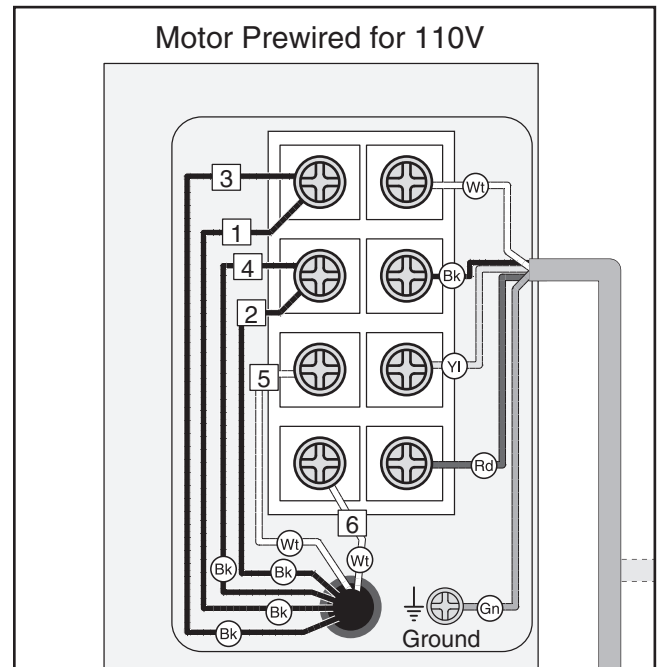

Figure 9. Motor configured for 110V operation.
2. Re-configure the motor wiring by removing wires 1, 2, 3, 4, 5, and 6 from the terminal block (see **Figure 9**).